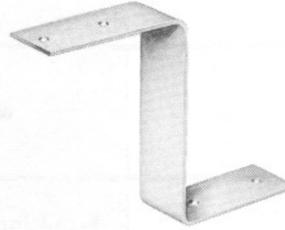

Fig. 7 - KS-16422, List 5 Bracket
- A KS-16422, List 5 bracket is provided for cases where ledge or horizontal surface mountings might be required (see Fig. 7).